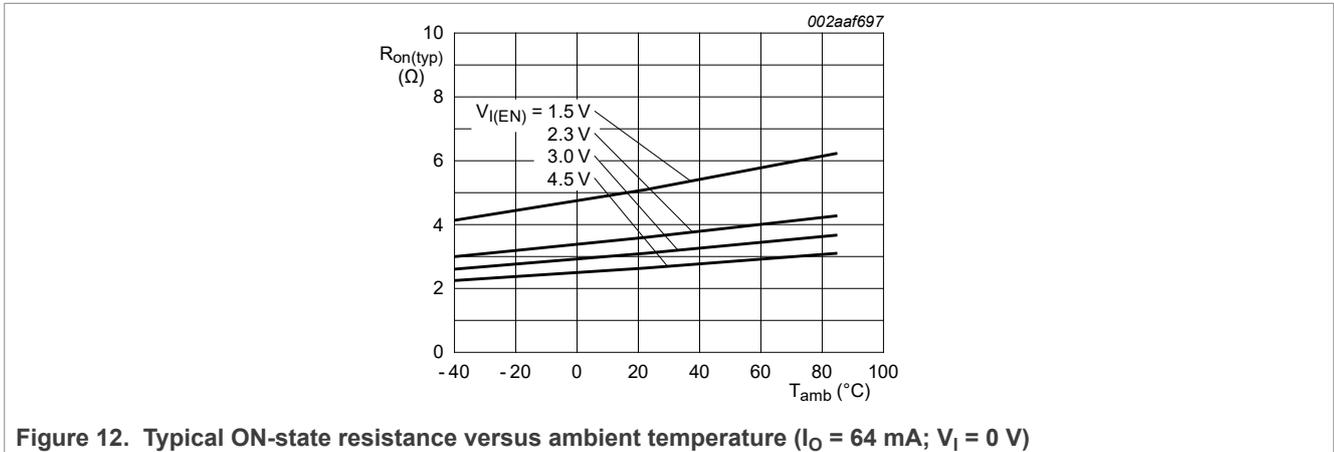
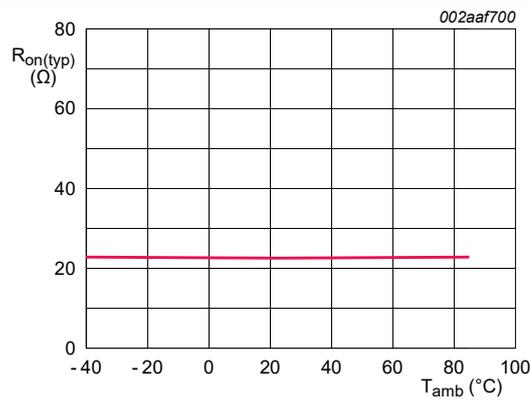

Figure 12. Typical ON-state resistance versus ambient temperature ($I_O = 64\text{ mA}$; $V_I = 0\text{ V}$)
Figure 15. Typical ON-state resistance versus ambient temperature ($I_O = 15\text{ mA}$; $V_1 = 1.7\text{ V}$; $V_{I(EN)} = 2.3\text{ V}$)
- [4] See curves in Figure 12 to Figure 15 for typical temperature and $V_{I(EN)}$ behavior.